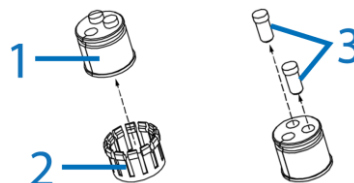

Figure 4
6. Remove the rubber insert (1) (Figure 4) from the plastic ring (2) (Figure 4).
7. Remove the two rubber plugs (3) (Figure 4) from the rubber insert.